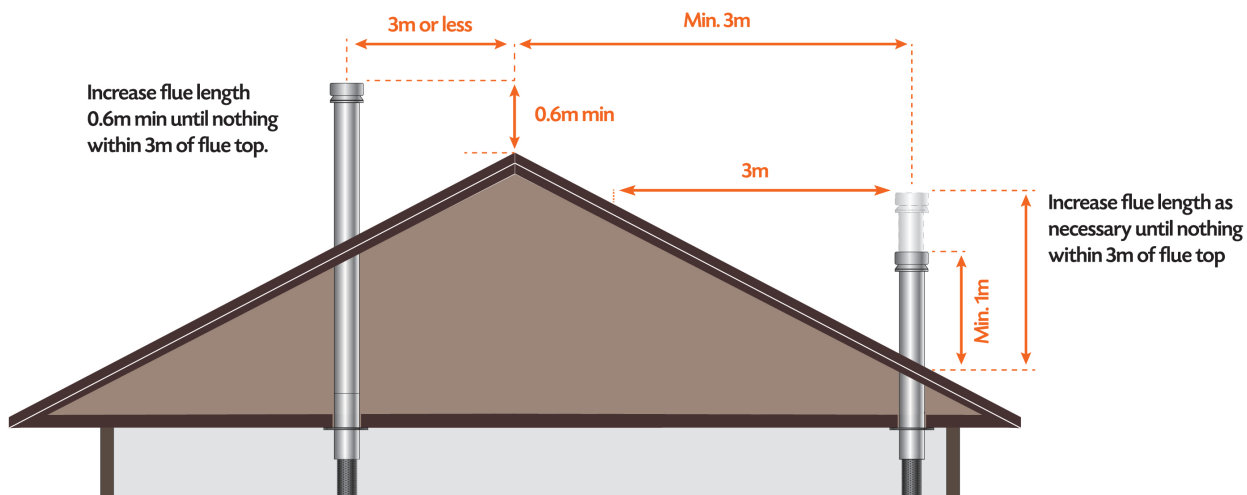

FIGURE 1
7. Add the remaining casings to the required height. Australian/New Zealand Standards state that "the flue pipe shall extend not less than 4.6m above the top of the floor protector". If the flue pipe is within 3 metres of the ridge, the flue pipe must protrude at least 600mm above the ridge of the roof. If the distance from the ridge is more than 3 metres, the flue pipe must protrude at least 1000mm above roof penetration. Additional lengths of casing and flue may be required to achieve this. The flue pipe must be more than 3 metres from any nearby structure. Other clearances may be applicable, it is up to the installer to ensure compliance with all regulations. See Figure 1 and 2 on P7.